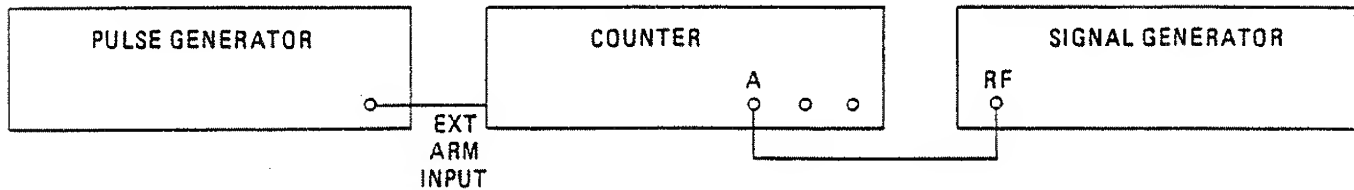

Fig. 6.14 Connections for External Arming PVP
- (1) Select 50 ohms on Input A and function FREQ A. Press the RESOLUTION ↓ key three times until 00000 is displayed.
- (2) Connect the test equipment as shown in Fig. 6.14.